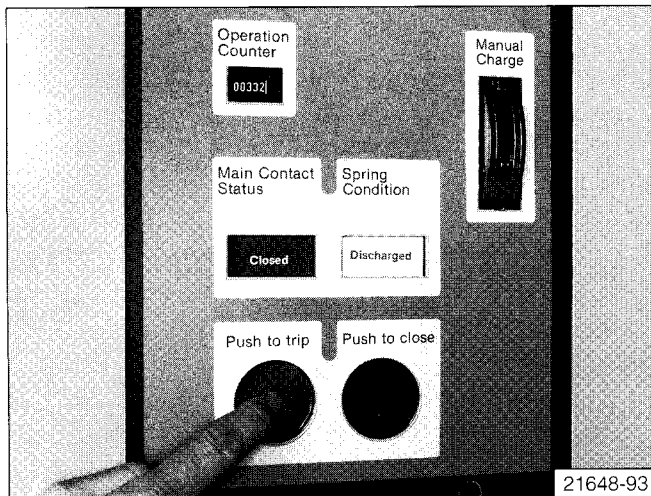

Figure 32: Manual Tripping of Circuit Breaker.
1. The first step is to de-energize the circuit breaker. **Figure 32** illustrates the location of the trip control on the circuit breaker operator panel. Depressing the Trip pushbutton opens the breaker prior to removal from the switchgear.
Figure 32 shows the breaker spring condition indicator in the Discharged position.